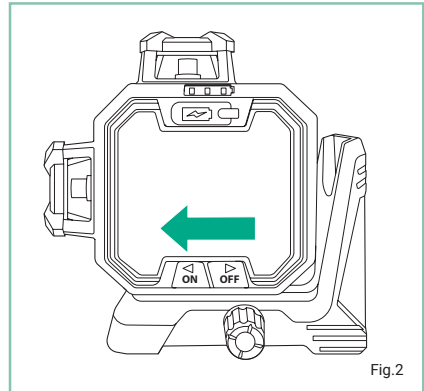
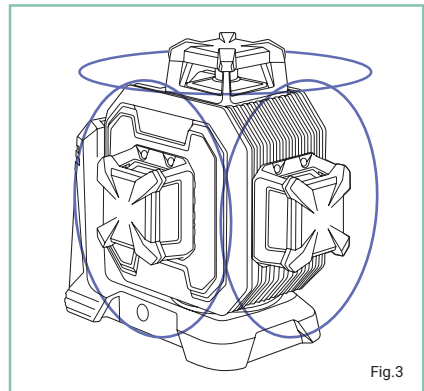

Fig. 2
Fig. 3
- To turn the laser level on, slide the **power / locking switch** to the “unlocked” position (Fig. 2). Self levelling will commence and all the beams will activate (Fig. 3).